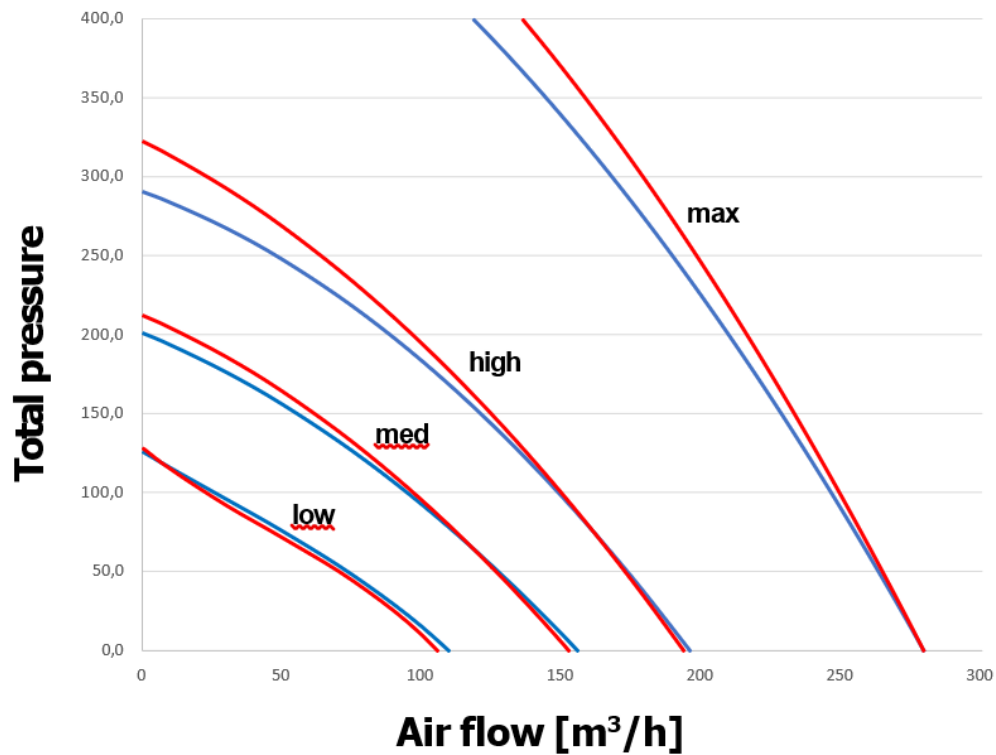

Figure 16. Total pressure for HRU-FlatAIR-250
- HRU-FlatAIR-250-H 250  $\text{m}^3/\text{h}$  (at 100 Pa) [Fig. 16]